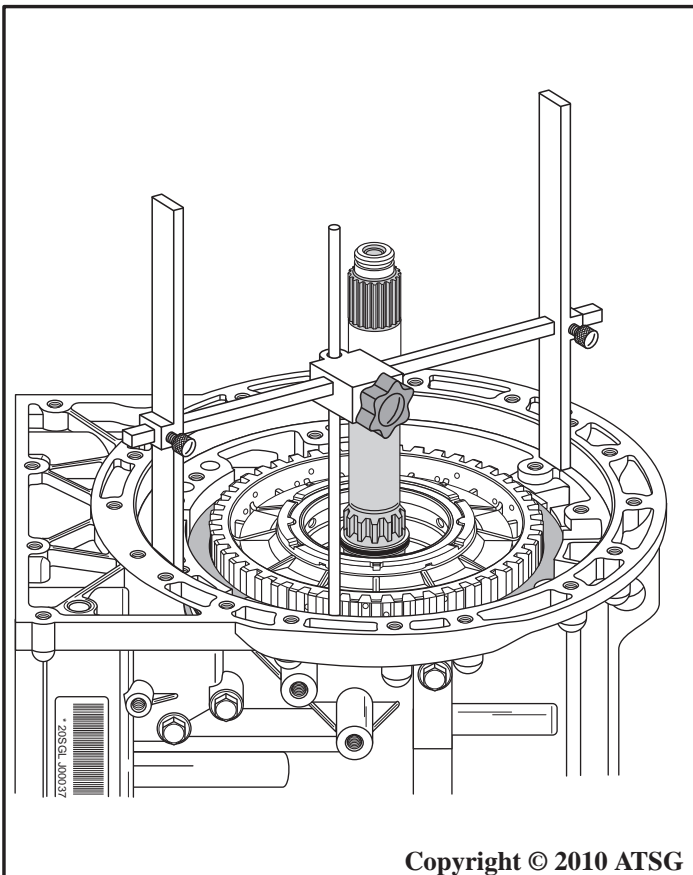

Figure 220
41. Install "H" gage on the transmission case pump surface, as shown in Figure 220, and lower the adjustment rod to the "high" point on the surface of the cushion plate and tighten adjustment rod locking knob.